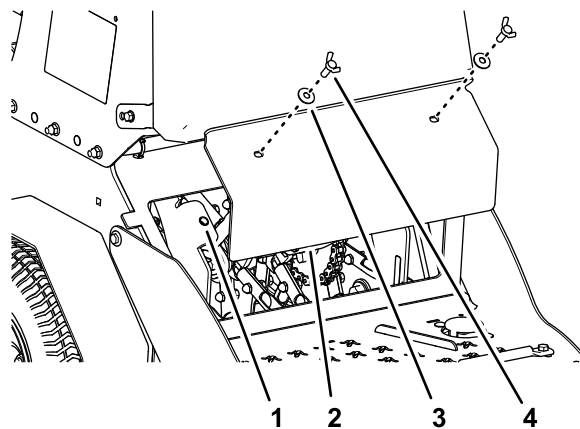

Figure 58
3. Remove the 2 thumbscrews (3/8 x 1 inch) and 2 washers (3/8 inch) that secure the rear-cover panel to the chassis, and remove the panel (Figure 58).
6. Align the holes in the rear-cover panel to the holes in the chassis (Figure 58).
- Secure the cover panel to the chassis with the 2 thumbscrews and 2 washers (Figure 58) that you removed in step 3, and torque the bolts to 37 to 45 N·m (27 to 33 in-lb)